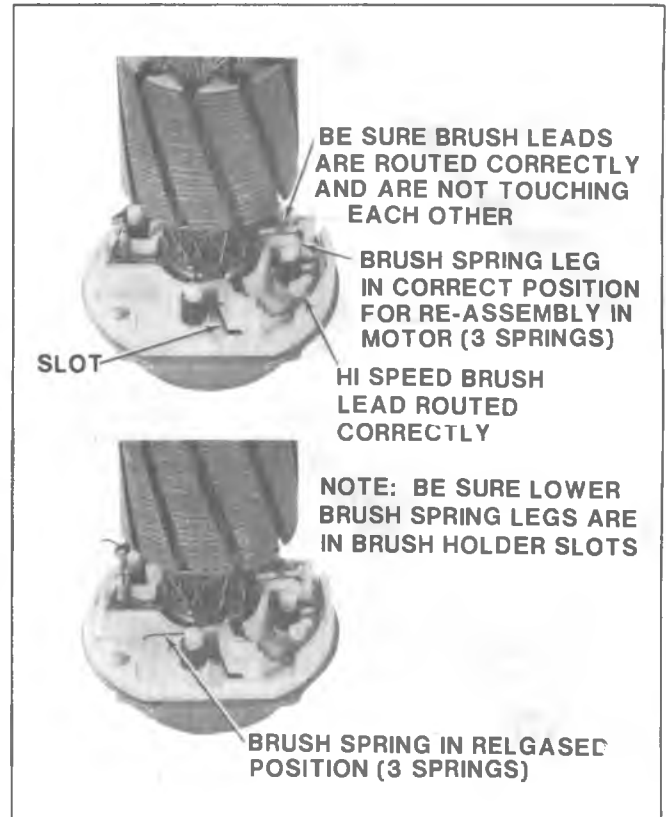

Fig. 8-33-Brush Spring-Brush Spring-Released Position
2. Assemble armature in end cap assembly and reposition brush spring legs behind their respective tabs, figure 8-33.